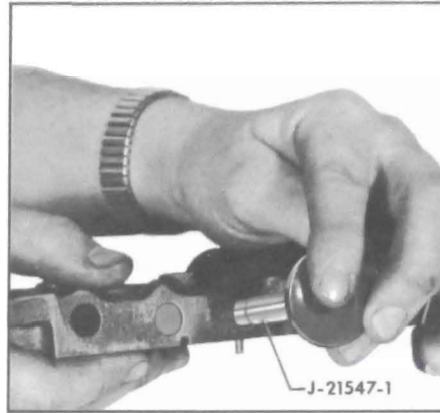

Figure 5-170
3. Depress modulator limit spring with tool J-21547-1. Turn valve body over and retaining pin will fall free. Remove spring and valve from body. See Figure 5-170.